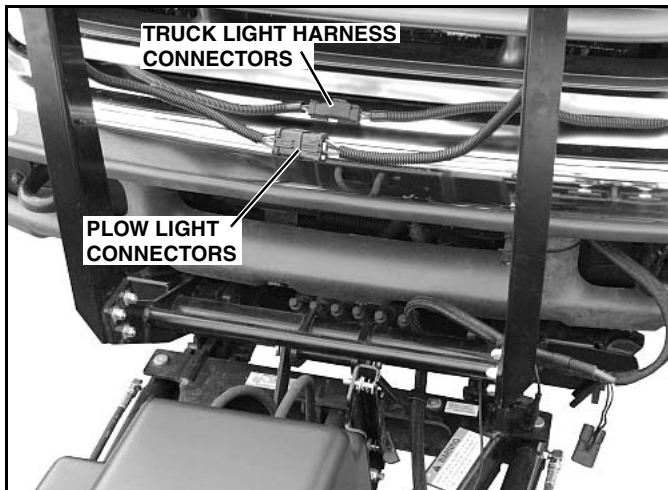

Figure 1-21
7. Unplug light harness connectors on truck, and disconnect plow light connectors, which had been plugged together for corrosion protection during storage. (See Figure 1-21).